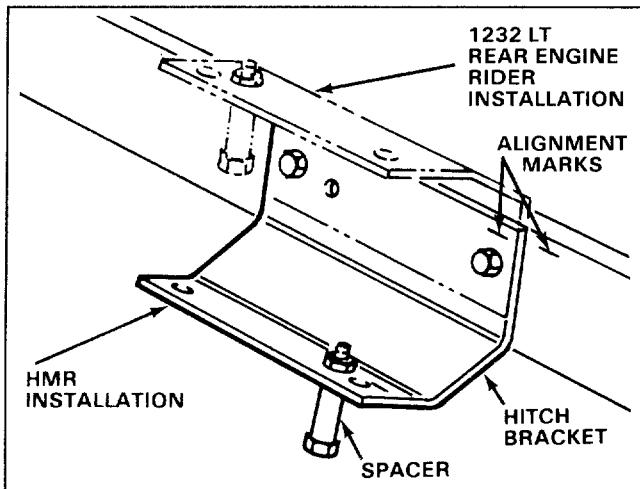

Figure 3
- When mounting hitch bracket for installation on a rear engine rider, position hitch bracket in upward position (Fig. 3). Mount bracket in downward position on HMR 1200 installation. Make sure marks on hitch bracket and grass catcher frame are aligned, to assure proper mounting holes are used in each application.
- Secure hitch bracket to grass catcher frame with (2) capscrews (7/8" lg.) and locknuts (Fig. 3).
- Mount a spacer to hitch bracket with a capscrew (7/8" lg.) and locknut. Spacer to be positioned downward from bracket (Fig. 3).